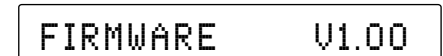

Figure 2
1. Repeatedly press the SETUP Push-button until “FIRMWARE V_._._” is indicated on the Front Panel Display. Refer to figure 2.